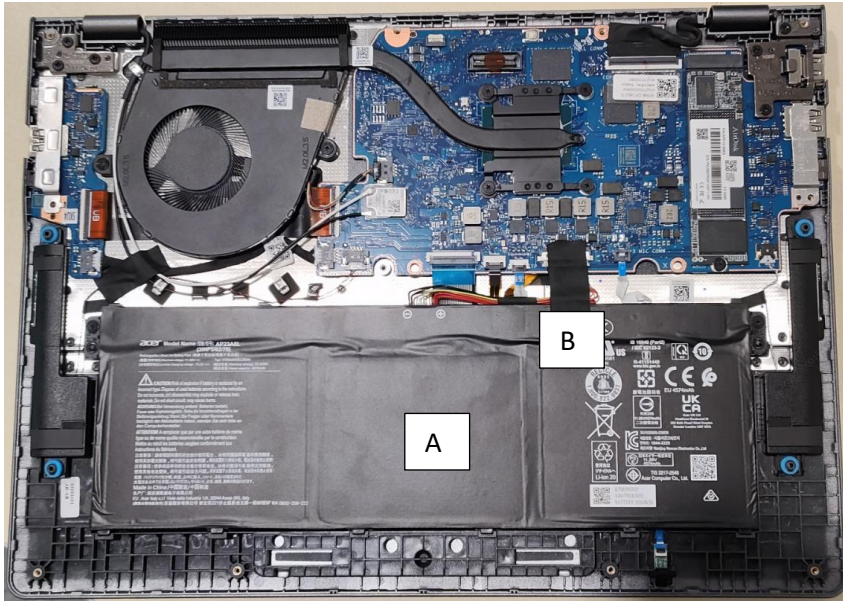

Figure 3-6. Battery Pack Removal
1. Find the battery pack (A) on the top assembly (Figure 3-6).
2. Detach the mylar (B) securing the mainboard connector (Figure 3-6).